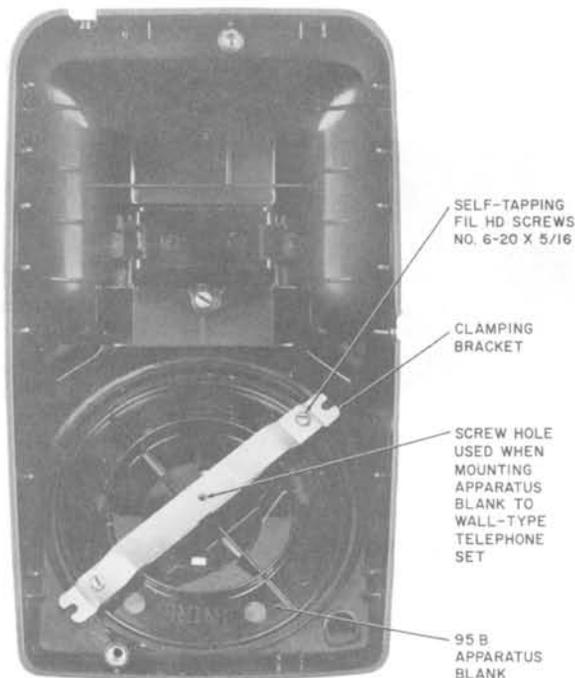

Fig. 7—500- and 501-Type Telephone Set With 95B Apparatus Blank, Interior
- Can be used in all sets (Fig. 7 and 8)